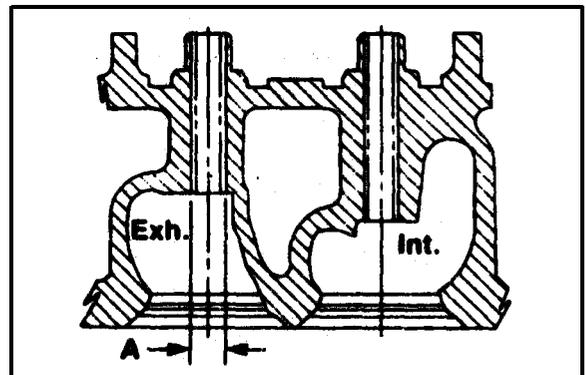

Figure 6-9
11. Machine cylinder head parent metal valve guide bores to dimension A (Figure 6-9).